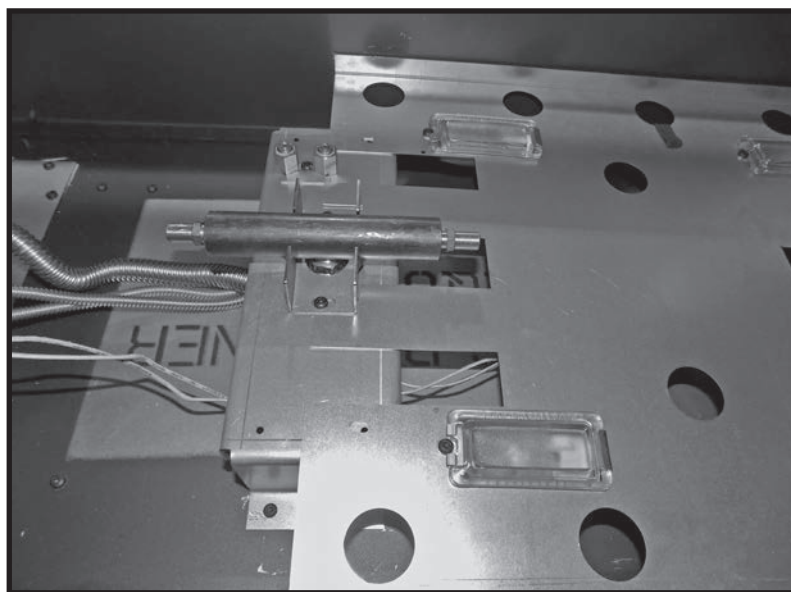

Figure 2: Right hand panel in place with its wires brought out from under it.
1. With the control compartment to your left, place one of the two secondary floor panels in the right side of the firebox (Figure 1) and route the two wires from the lights underneath the plate over to the left hand side of the firebox (Figure 2).